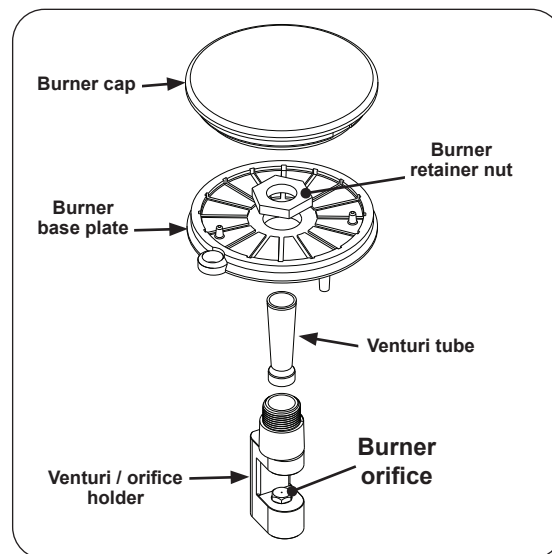

Fig. 33-1 Burner details
2. Remove the burner cap and the venturi tube (see Fig. 33-1).